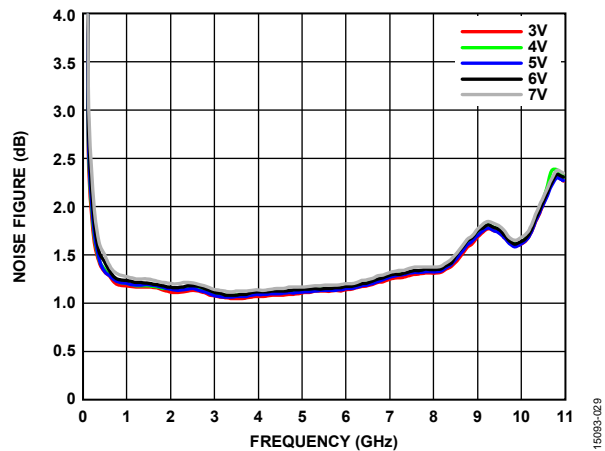
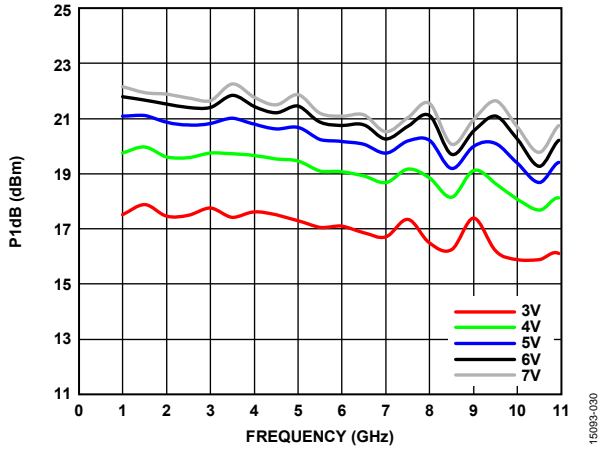
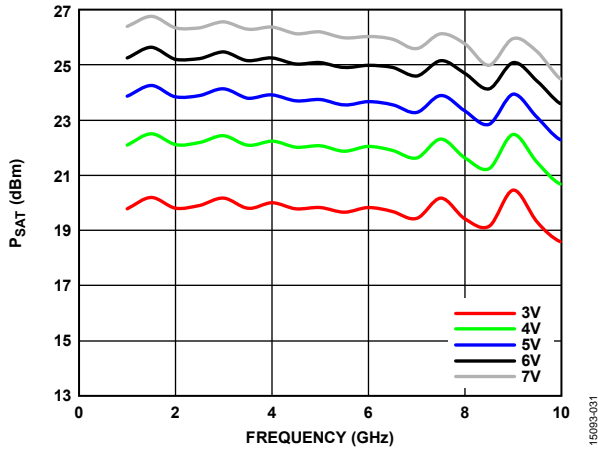

Figure 29. Noise Figure vs. Frequency for Various Supply Voltages, $I_{DQ} = 65\text{ mA}$
Figure 30. P1dB vs. Frequency for Various Supply Voltages, $I_{DQ} = 65 \text{ mA}$
Figure 31. P_{SAT} vs. Frequency for Various Supply Voltages, $I_{DQ} = 65 \text{ mA}$
Figure 29, Figure 30, and Figure 31 show that increasing the voltage from 3 V to 7 V typically increases P_{1dB} and P_{SAT} at the expense of power consumption with minor degradation on noise figure (NF).